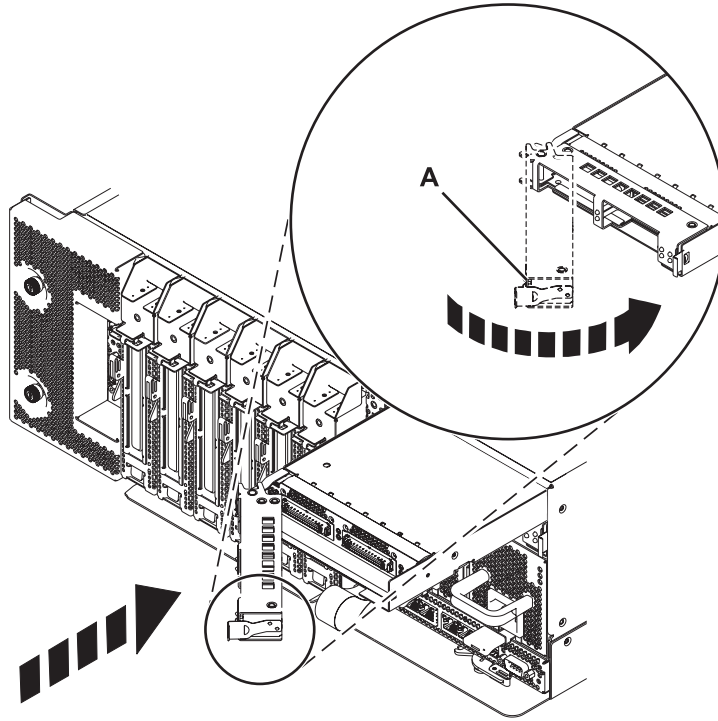

Figure 2. Installing a GX adapter in the system
12. Rotate the adapter cover in the direction shown in Figure 2 on page 8 and push it toward the card until the locking tab (A) snaps into place.